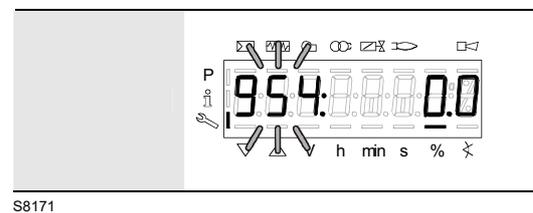

Fig. 45
7.2.5 Measuring the flame signal (Fig. 45)